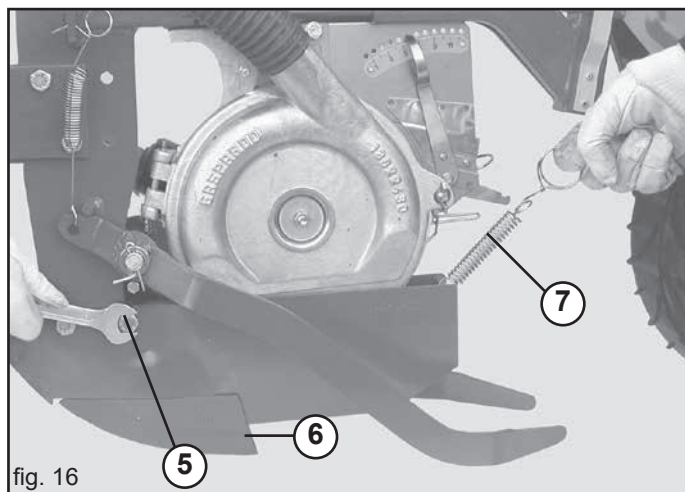

fig. 16
- 2) If fitted, remove the antibounce bolt (5, Fig. 16);
- 3) Unhook the lister (6, Fig. 16) by removing the spring (7);